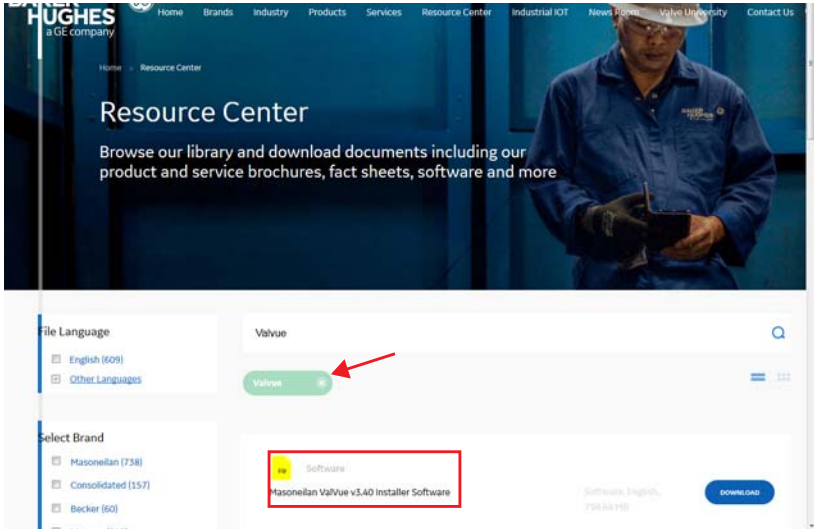

Figure 25 Download Center: Search for Valve 3
1. Go to the *Resource Library* (<https://valves.bhge.com/resource-center>) and enter *ValVue* in the search field (arrow in Figure 25).
The results appear (red box in Figure 25).